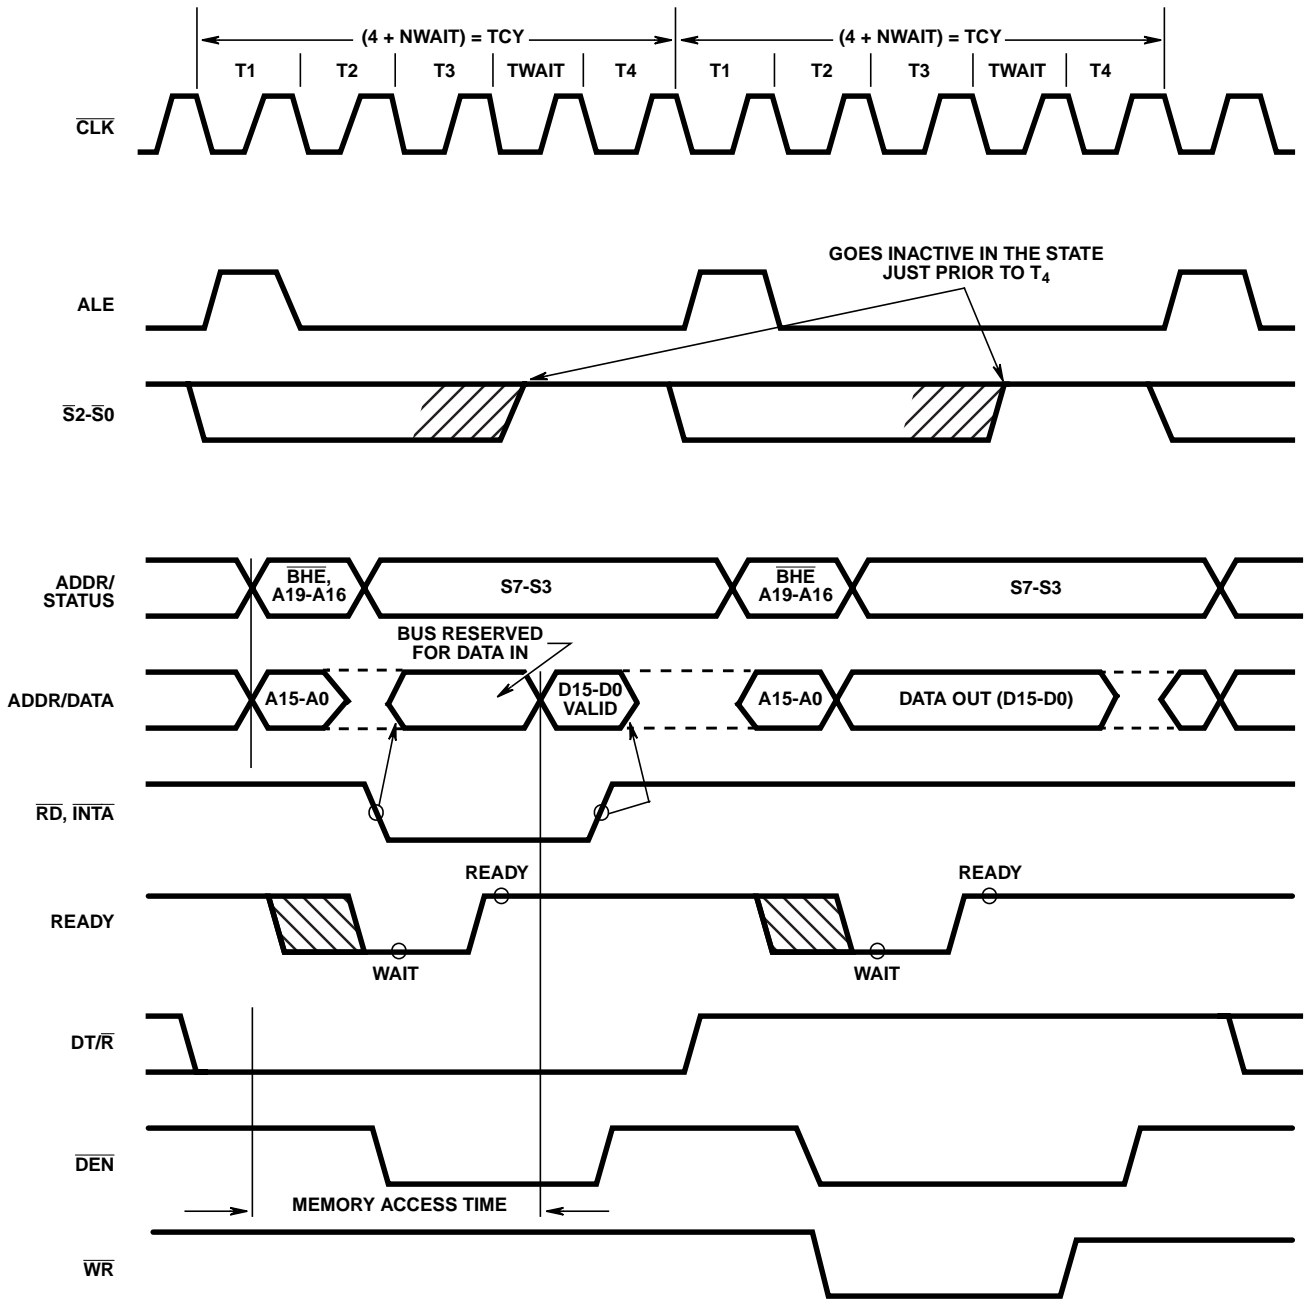

FIGURE 3. BASIC SYSTEM TIMING
Each processor bus cycle consists of at least four CLK cycles. These are referred to as T1, T2, T3 and T4 (see Figure 3). The address is emitted from the processor during T1 and data transfer occurs on the bus during T3 and T4. T2 is used primarily for changing the direction of the bus during read operations. In the event that a "NOT READY" indication is given by the addressed device, "Wait" states (TW) are inserted between T3 and T4. Each inserted wait state is the same duration as a CLK cycle. Periods can occur between 80C86 driven bus cycles. These are referred to as idle" states (T_i) or inactive CLK cycles. The processor uses these cycles for internal housekeeping and processing.
Typical system configurations for the processor operating in minimum mode and in maximum mode are shown in Figures 6A and 6B, respectively. In minimum mode, the MN/MX pin is strapped to VCC and the processor emits bus control signals (e.g. RD, WR, etc.) directly. In maximum mode, the MN/MX pin is strapped to GND and the processor emits coded status information which the 82C88 bus controller uses to generate MULTIBUS compatible bus control signals. Figure 3 shows the signal timing relationships.